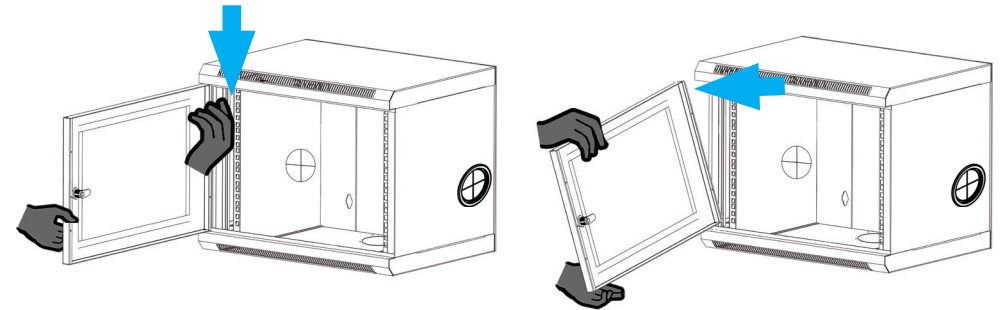

Figure 1
1. While holding the **Door**, Pull the **Pin Handle Down** in the **Inside Top Corner** of the **Door**. Pull the **Top Corner** of the **Door** slightly away from the **Door Frame**. (Figure 1)